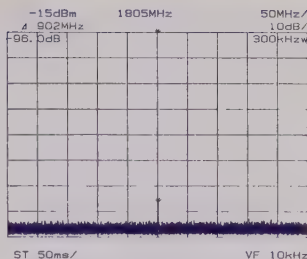

Fig. 3-7 Second harmonic level measurement
Step 12 When is pressed, the Δ marker display shows the ratio of the second harmonic to the fundamental wave in dB. And when the **TR14101** calibration value of 1 dB is added, a value of -95.0 dB is obtained. (See Figure 3-7.)